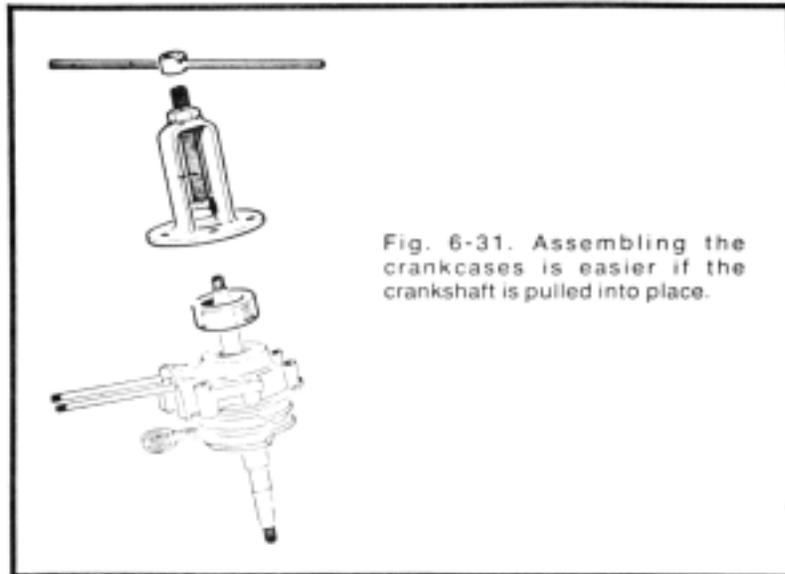

Fig. 6-31. Assembling the crankcases is easier if the crankshaft is pulled into place.
**Gasket.** Mount a new gasket on one crankcase half; the gasket should be soaked in oil first. Heat the bearing bosses on the outboard case, using a large washer to shield the new seal from flame. If one is available, use an extractor tool to pull the crankshaft and inner case into the outer case. Figure 6-31 illustrates the Peugeot setup for this operation. The end of the tool is threaded over the crankshaft and the spacer distributes stress over the circumference of the bearing boss.